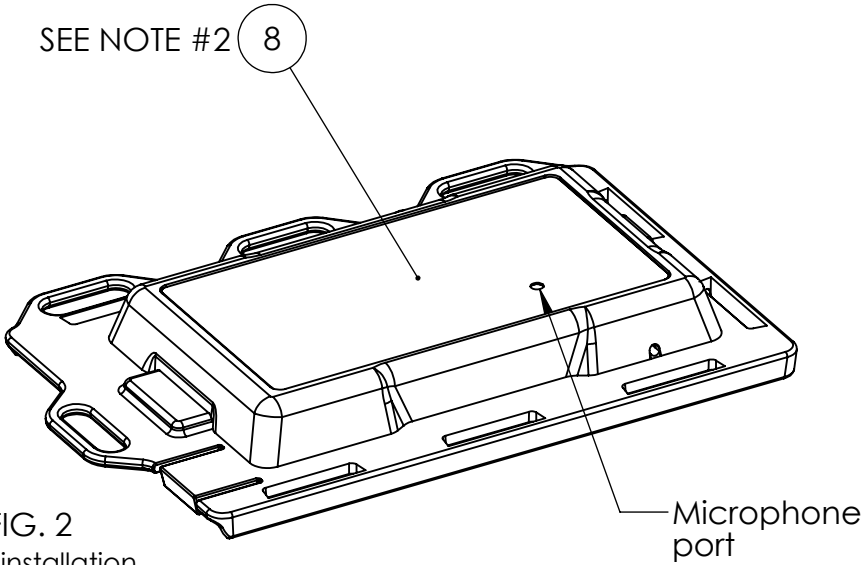

FIG. 2
2. Apply serial number label matching MAC address of the PCB as generated from the programming station to the clear window area of the case label (item #8) before applying the case label to the PCB housing (item #2). See FIG. 2